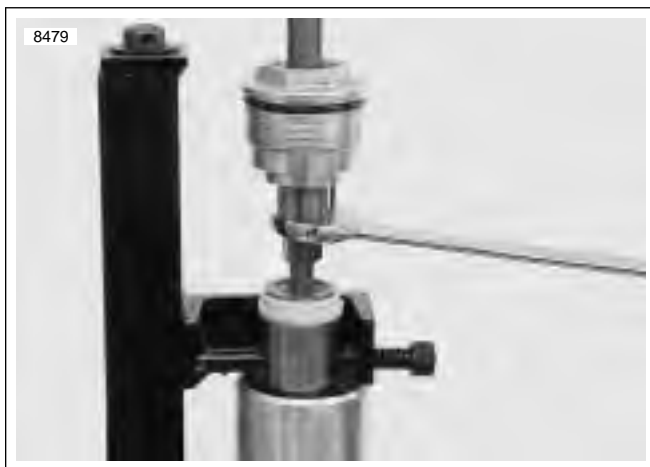

Figure 2-74. Rebound and Fork Cap Assembly
6. See Figure 2-74. Tighten the damper locknut to 22-30 ft-lbs (30-40 Nm).
21. See Figure 2-74. Hold damper rod assembly (3) and install fork cap (1) on damper rod assembly tightening to 22-29 ft-lbs (30-39.3 Nm).